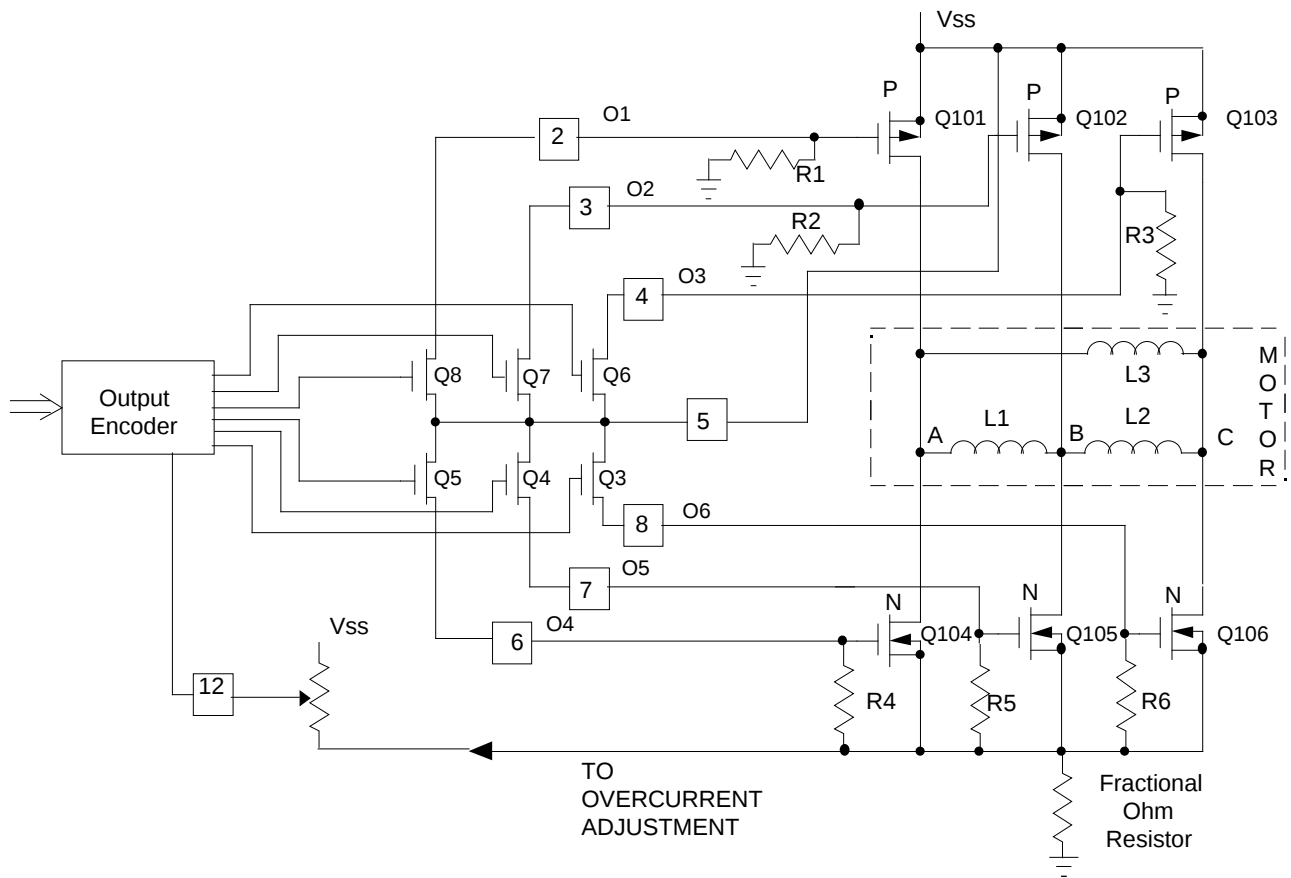

FIGURE 1. LS7260 THREE PHASE OUTPUT DRIVER CIRCUITRY
A positive braking feature is provided to effect rapid deceleration. While the LS7262 is designed for driving NPN and PNP transistors (See Fig. 2), the LS7260 is designed to drive both NMOS and PMOS Power FETs and develops a full 12V drive for both the N-Channel and P-Channel devices (See Fig. 1) when using a 12V power supply.
For the LS7262, a high level at this input unconditionally turns OFF Outputs 1, 2 and 3 and turns ON Outputs 4, 5 and 6 (See Fig. 2). For the LS7260, a high level at this input turns ON Outputs 1, 2 and 3 and Outputs 4, 5 and 6 (See Fig. 1). In both cases, transistors Q101, Q102 and Q103 cut off and transistors Q104, Q105 and Q106 turn on, shorting the windings together. The BRAKE has priority over all other inputs.
The oscillator is used for motor speed control as explained under VTRIP. Both upper and lower motor drive transistors are pulse width modulated (See Fig. 1 or 2) during speed control. For the LS7262, the outputs turn on in pairs (See Table 3). For example (See dotted line, Fig. 2): Q8 and Q4 are on, thus enabling a path from the positive supply through the emitter-base junction of Q101, Q8, Q4, R5, the base emitter junction of Q105 and the fractional-ohm resistor to ground. The current in the above described path is determined by the power supply voltage, the voltage drops across the base-emitter junctions of Q101 and Q105 (1.4V for single transistor or 2.8V for Darlington pairs), the impedance of Q8 and Q4 and the value of R5. Table 1 provides the recommended value for R5. R4 and R6 are the same value.
For the LS7260, (See Fig. 1) the external drivers also turn on in pairs. Internal operation is somewhat different than the LS7262. For example, external transistors Q101 and Q105 will turn on when internal transistor Q8 turns off and Q4 turns on enabling full power supply drive on Q101 and Q105. Since Pin 5 is tied to Vss, the gate of P-channel Driver Q101 is brought to ground by R1 and the Gate of N-Channel driver Q105 is brought to Vss by Q4. Other external output pairs turn on similarly and the commutation sequence is identical to that of the LS7262 (Table 3). Table 2 indicates the minimum value of R1 (=R2=R3=R4=R5=R6) needed as a function of output drive voltage for Fig. 1.
* See Figures 1 and 2. For the LS7260, Outputs O1,O2,O3 are the logical inversions of the corresponding Out- puts of the LS7262
* See Figures 1 and 2.